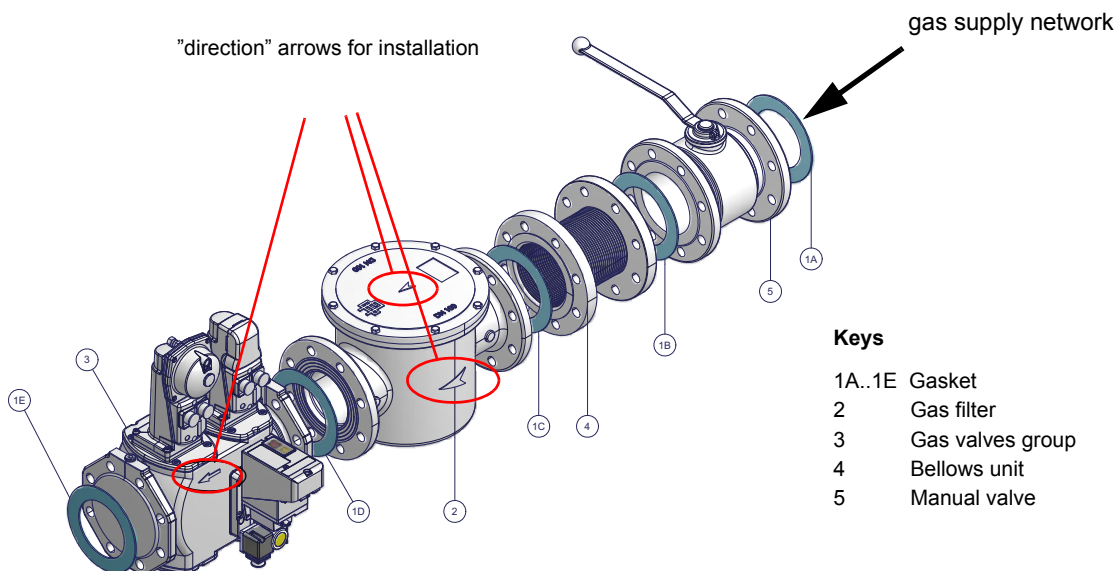

Fig. 3 - Example of gas train
1-b) in case of flanged joints: place a gasket (no. 1A..1E - Fig. 3) between the elements
**ATTENTION:** once the gas train is mounted according to the diagram (Fig. 3), the gas proving test must be performed, according to the procedure set by the laws in force.